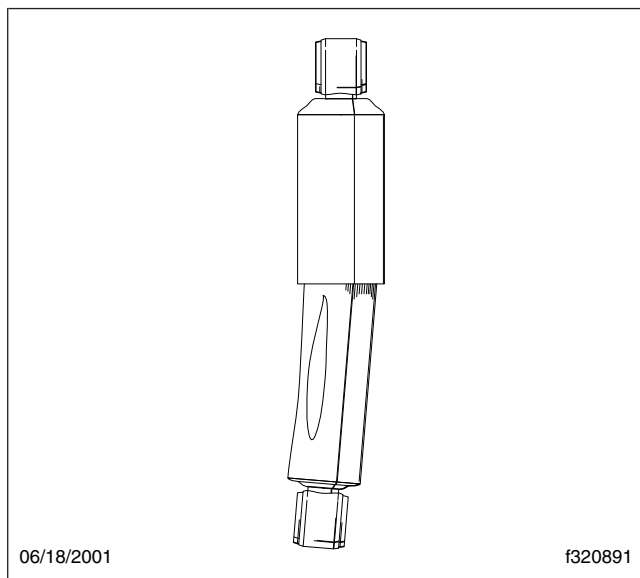

Fig. 4, Bent and Dented Shock
9. Bent or dented body. See Fig. 4.